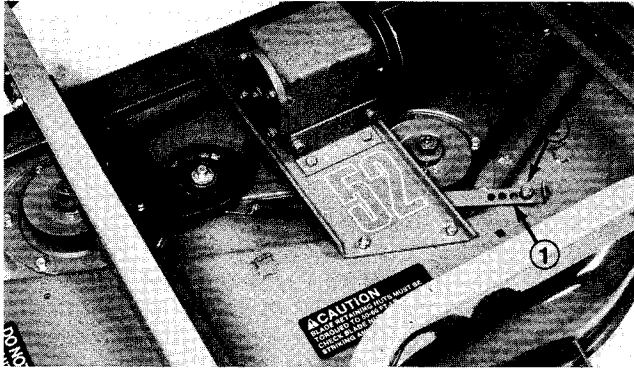

Figure 19
2. Remove nut securing spring anchor to capscrew in housing (Fig. 19). Lift anchor off capscrew and pull to increase belt tension. Correct belt tension is achieved when approximately 30-40 lbs. of force is applied to spring.
2. Remove nut securing spring anchor to carscrew in housing (Fig. 19). Remove anchor and allow belt to relax.